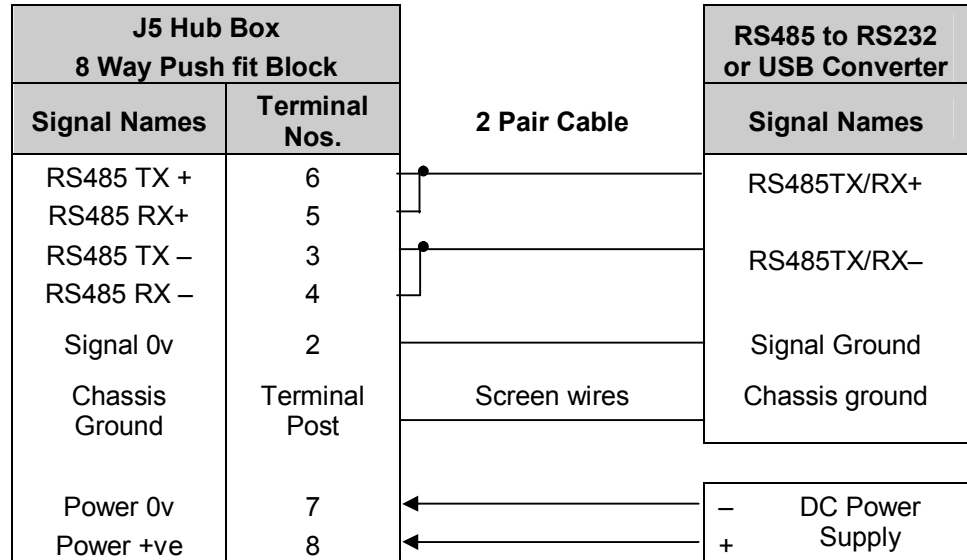

Figure 8 RS485 Connections
- RS485                                      Figure 8